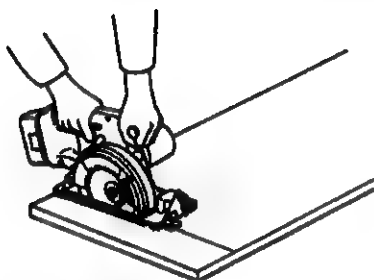
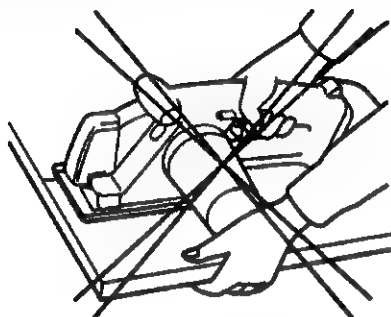

Fig. 12
Fig. 13
4. Place the wider part of Wood Saw base on the part of the work piece which is solidly supported (Fig. 12), never on the section that will fall off when the cut is made (Fig. 13).